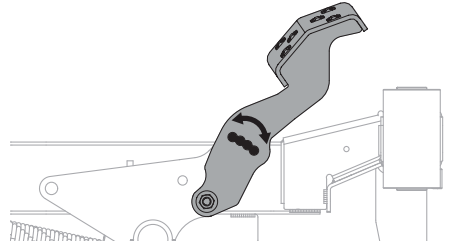

Figure 37
3. Position the pedal to the optimal position based on operator preference (Figure 37).